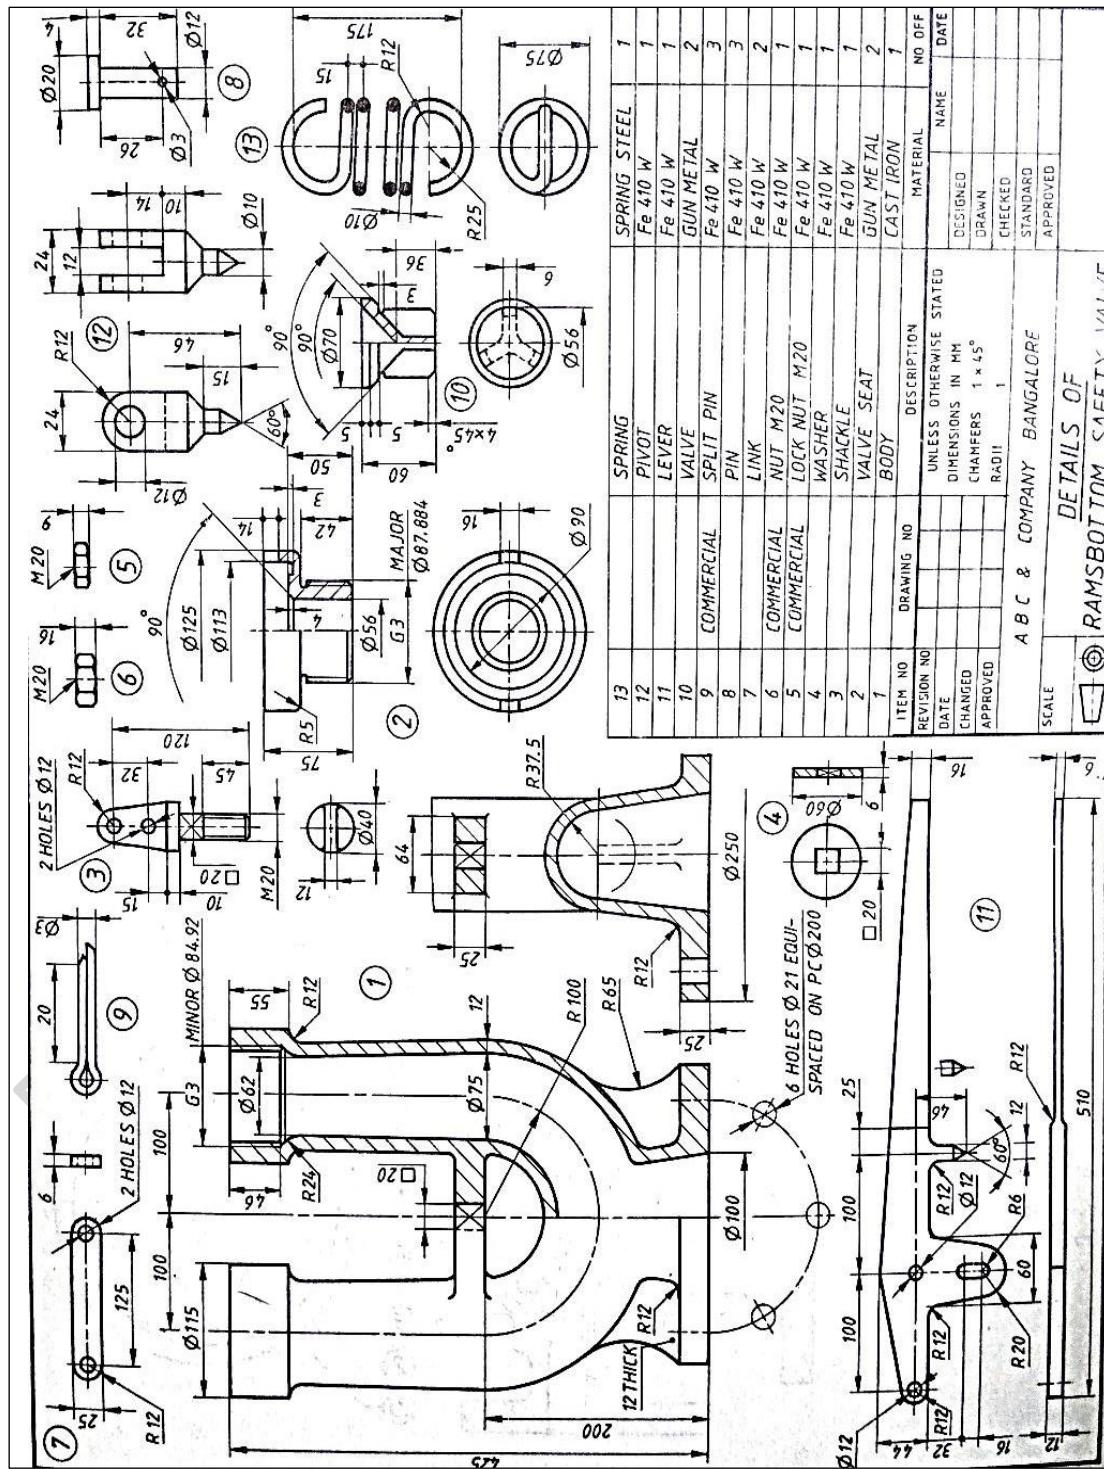

Figure 4: Details of Ramsbottom Safety Valve.
4. The details of RAMS BOTTOM SAFETY VALVE are shown in Fig.4. Assemble all the parts correctly and construct the following views to 1:2 scale.